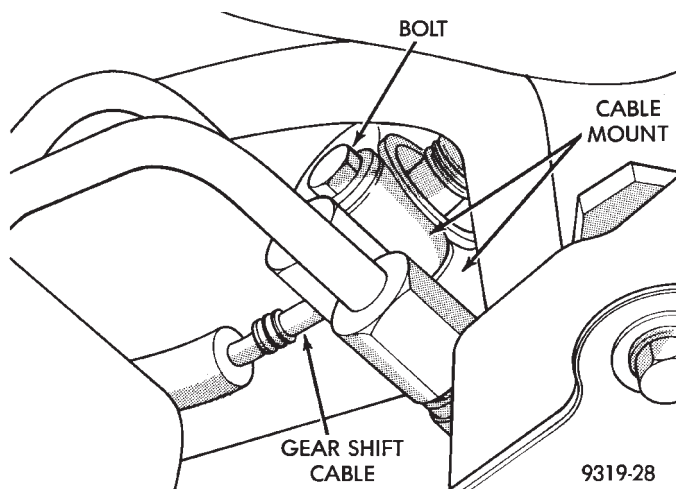

Fig. 24 Gear Shift Cable Attachment To Transaxle
(17) If vehicle is equipped with a 3.5 ltr engine, install throttle cable in throttle cable bracket and install cable throttle cable on throttle body.
(18) Raise vehicle.
(19) Install gear shift cable onto shift lever on transaxle. Install gear shift cable on cable mounting bracket of transaxle and securely tighten bolt (Fig. 24).
(20) Lower vehicle.
(21) Install the wheel and tire assemblies.